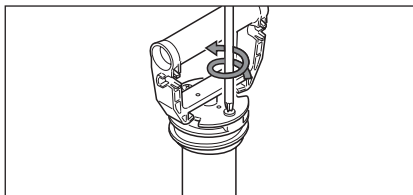

Figure 11. Remove the Pump Cap
2. Remove the screws securing the pump cap to the barrel. Pull the pump handle assembly out of the barrel. See Figure 11.